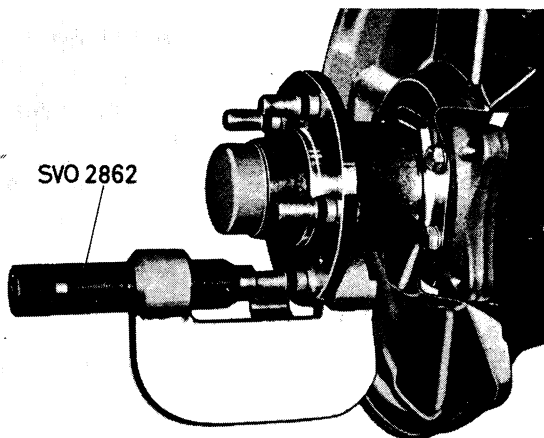

Fig. 7-14. Removing wheel stud
2. Set up tool SVO 2862, without the accessory components, as shown in Fig. 7-14, then operate the nut runner until the stud is fully removed. If the old stud was loose in the hub, the hole must be check-measured. If the hole diameter exceeds 16.27 mm (0.64"), the hub must be replaced.